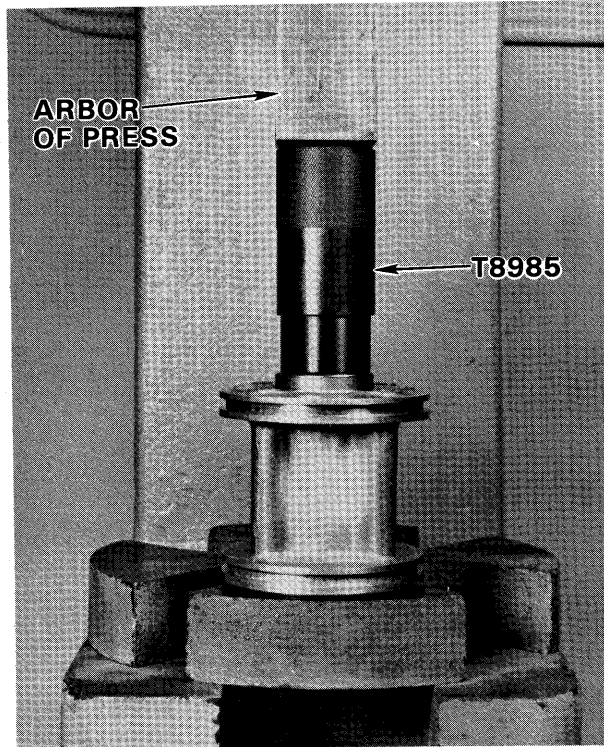

Figure 15—Installing Propeller Shaft Seal
- A. Press propeller shaft seal in spool with larger metal lip on outside diameter of seal toward water side using special tool T8985 as shown in figure 15.